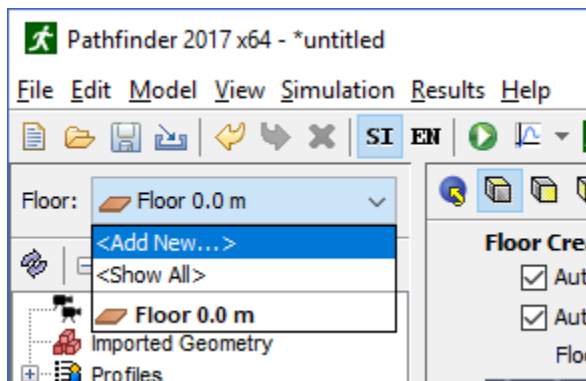

Figure 18. Adding a new floor
1. Click on the floor drop-down box above the Navigation View, and select **<Add New>** as shown in Figure 18. A dialog will open asking for the floor location.
To change the active floor, click the floor drop-down box as shown in Figure 18, and select the desired floor. This will make that floor active and all other floors non-active.
To show all floors click the floor drop-down box as shown in Figure 18, and click <Show All>.